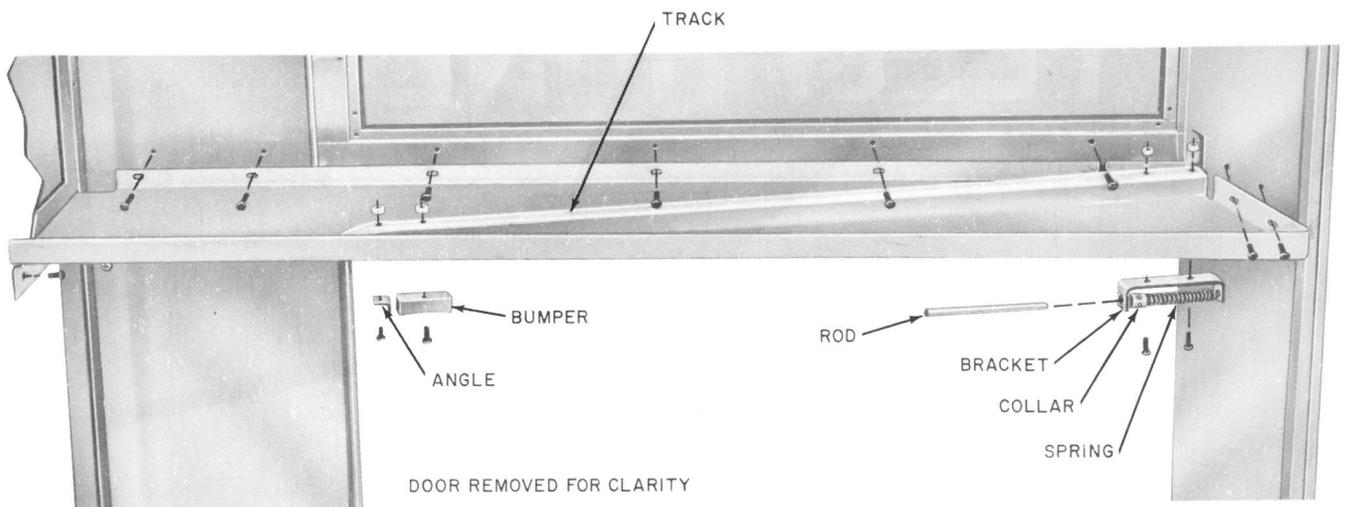

Fig. 3—Installation of Door Track
(4) Check rubber door-frame bumpers. Replace if worn or missing.
(5) Check door track. If worn track is interfering with operation of door, replace track as shown in Fig. 3.